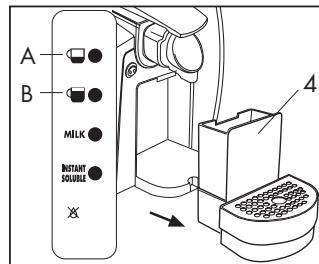

Fig. 17
Remove the capsules drawer (4), empty it and rinse (Fig.17). Clean the drawer and the grid to remove water and coffee residues. Once cleaned, insert back the tray containing the capsules drawer (4).